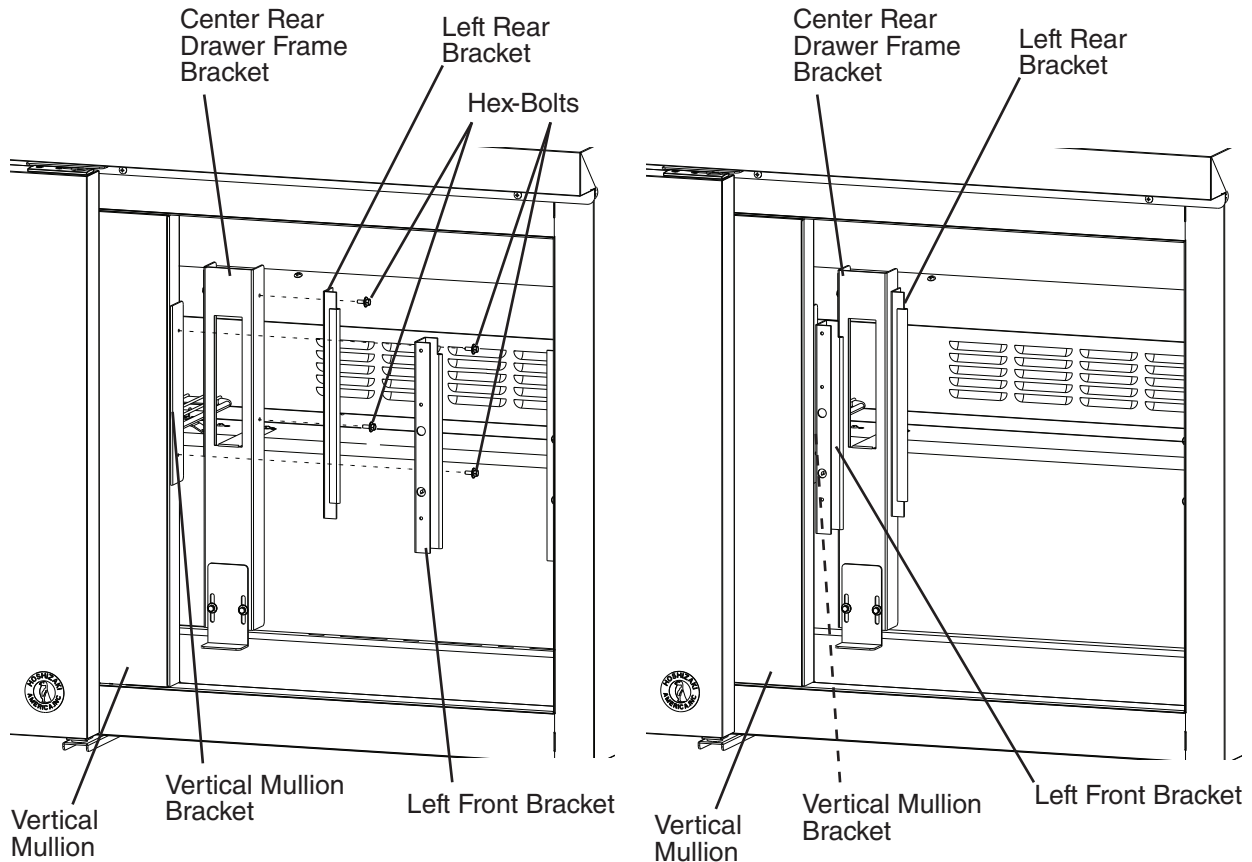

Fig. 37
- 21) Place the left front bracket in place on the vertical mullion bracket with the hex-bolts removed in step 4. See Fig. 37. Leave loose, do not tighten at this time.